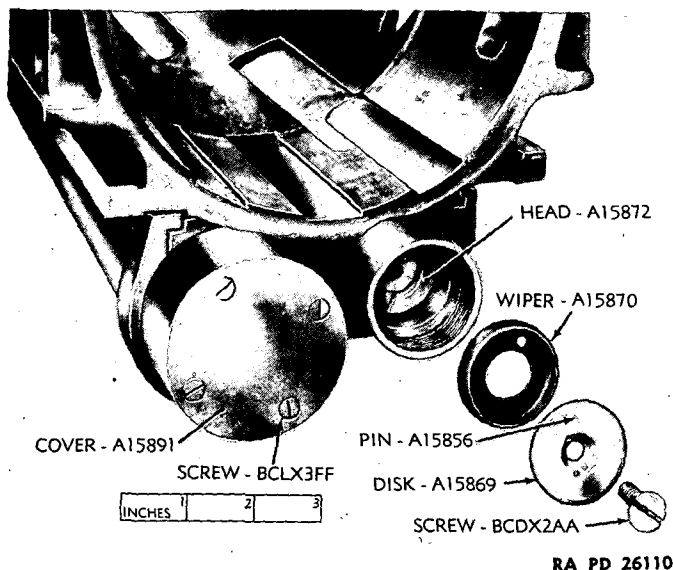

Figure 47—Recoil Cylinder Wiper—Exploded View
- (b) Remove cap screw from recoil piston disk and piston head. Then remove recoil piston disk and recoil cylinder wiper (fig. 47).